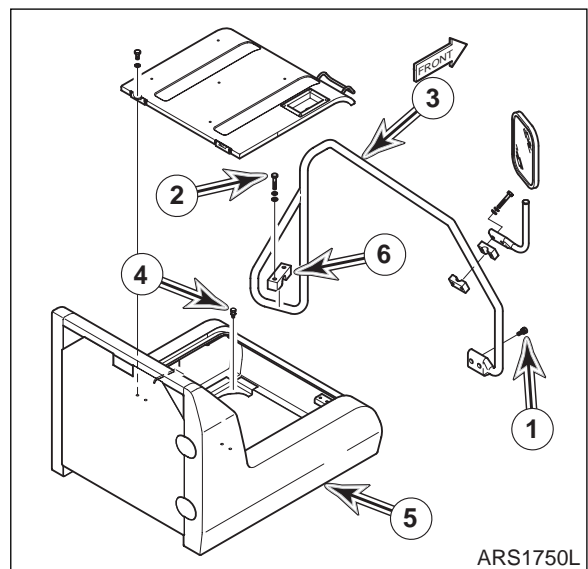

Figure 15
6. Install four bolts (4, Figure 15) and battery cover (5) on frame.